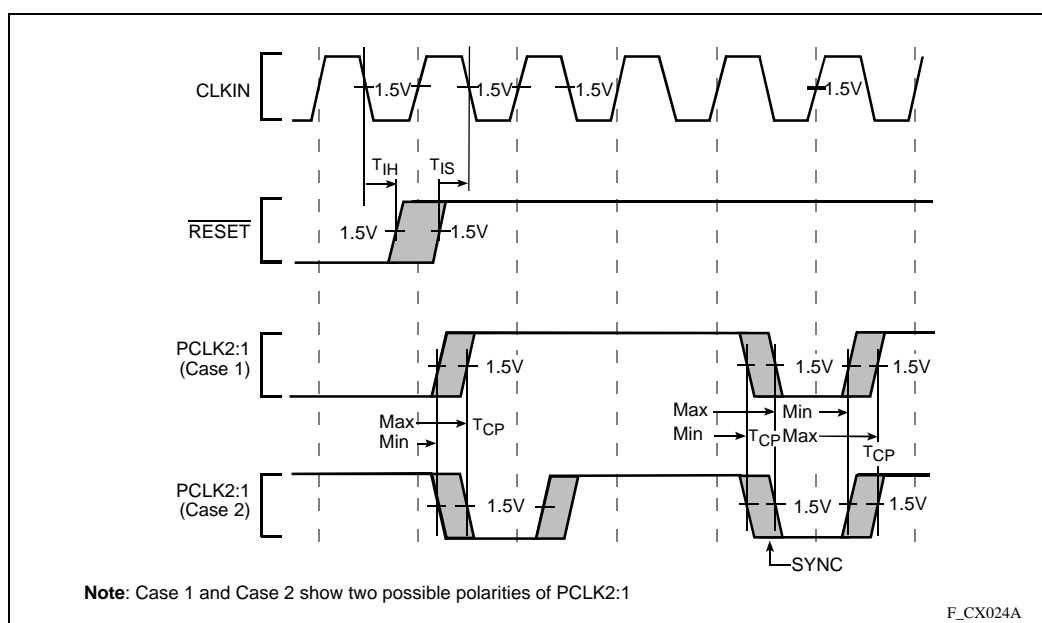

Figure 22. Clock Synchronization in the 2-x Clock Mode
- In 2-x clock mode, $\overline{\text{RESET}}$ is an asynchronous input which has no required setup and hold time for proper operation. However, to guarantee the device exits reset synchronized to a particular clock edge, the $\overline{\text{RESET}}$ pin must meet setup and hold times to the falling edge of the CLKIN. (See Figure 22.)